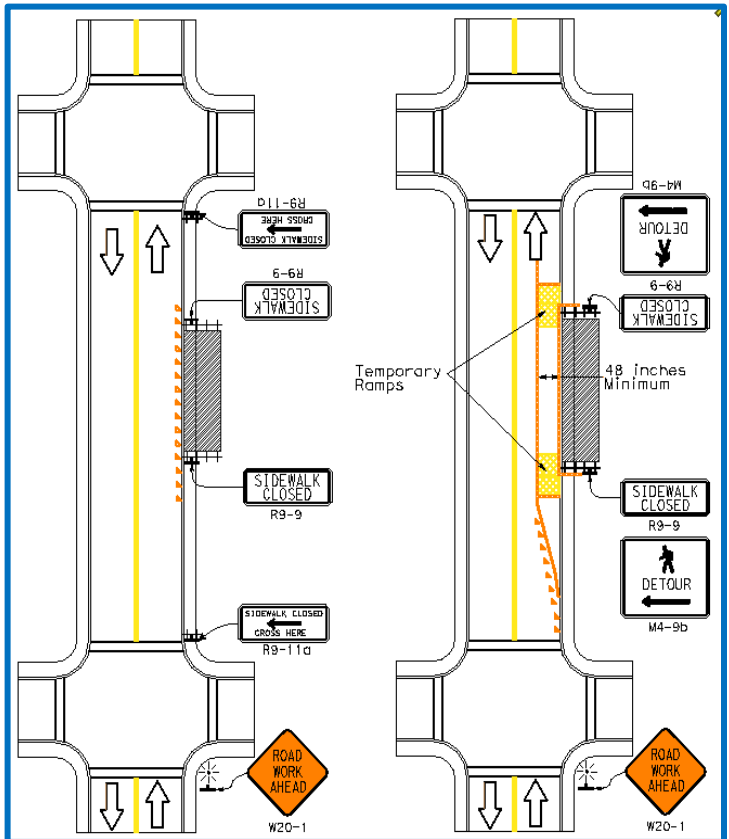

Figure 3 Sidewalk Detour or Diversion
- Midblock work sites should not induce pedestrians to attempt skirting the work site or make a midblock crossing. (See Figures 3 and 4.)